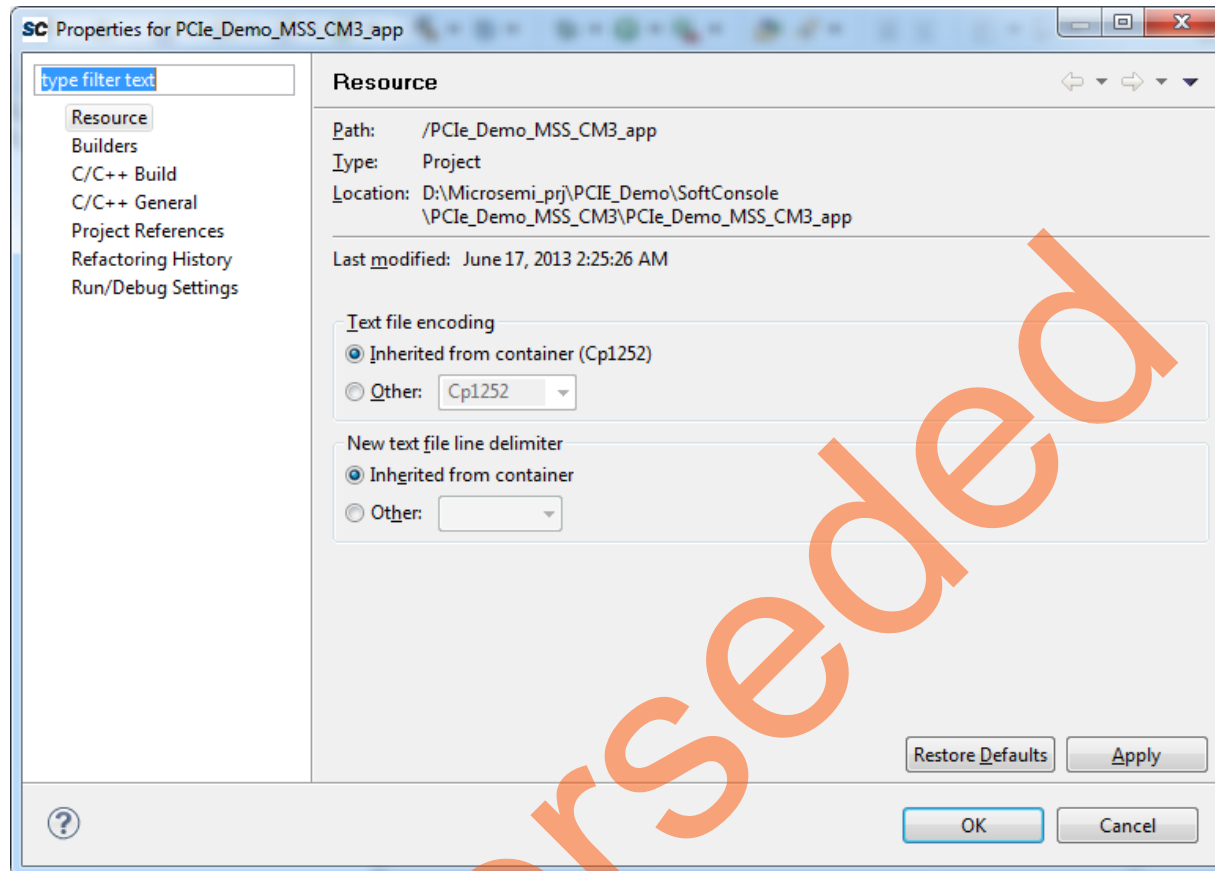

Figure 36 • Properties Window
6. The **Properties for PCIe_Demo_MSS_CM3_app** window is displayed as shown in Figure 36.